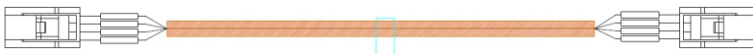

Figure-20 Battery module communication cable diagram (picture is for reference only)
1) Take out the matching battery module communication line as shown in Figure-20 and separate the communication line according to the battery module communication line label.